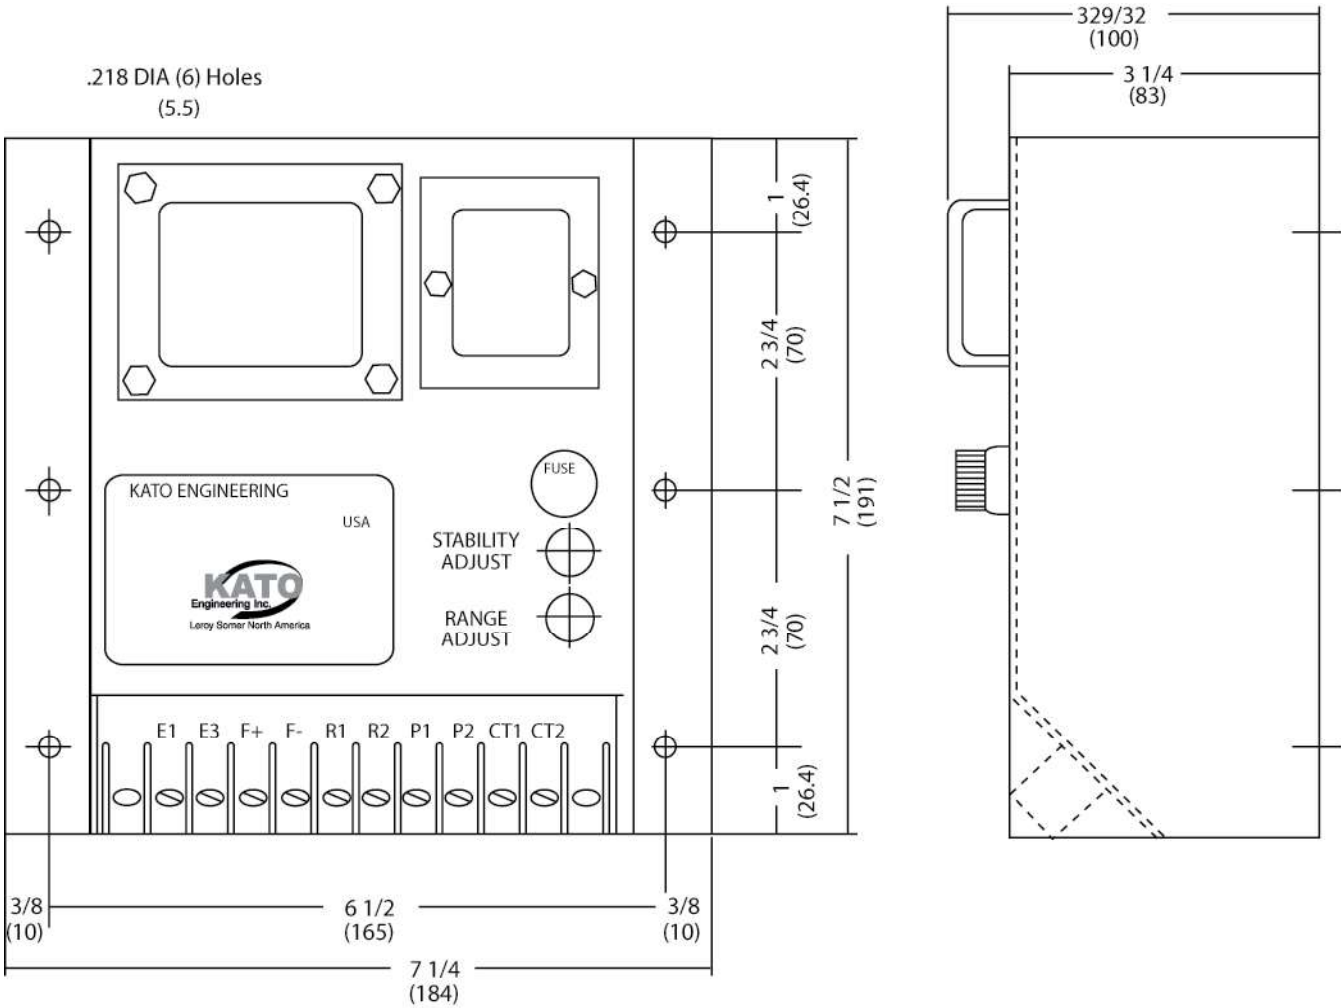
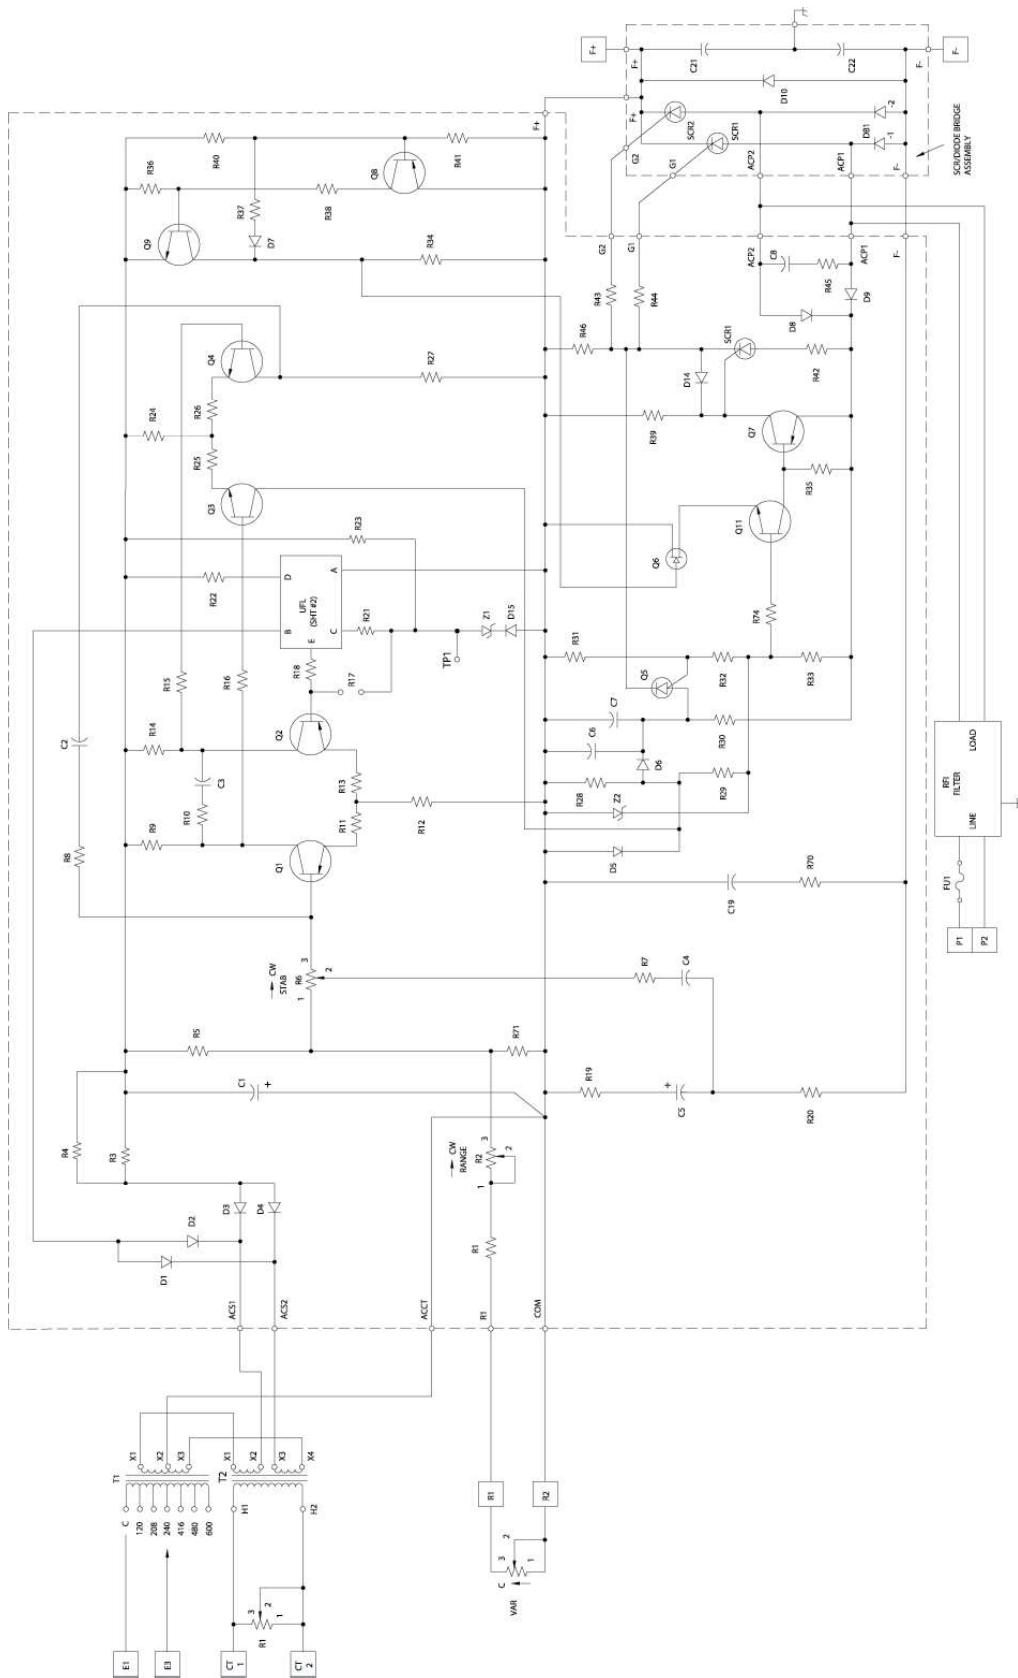
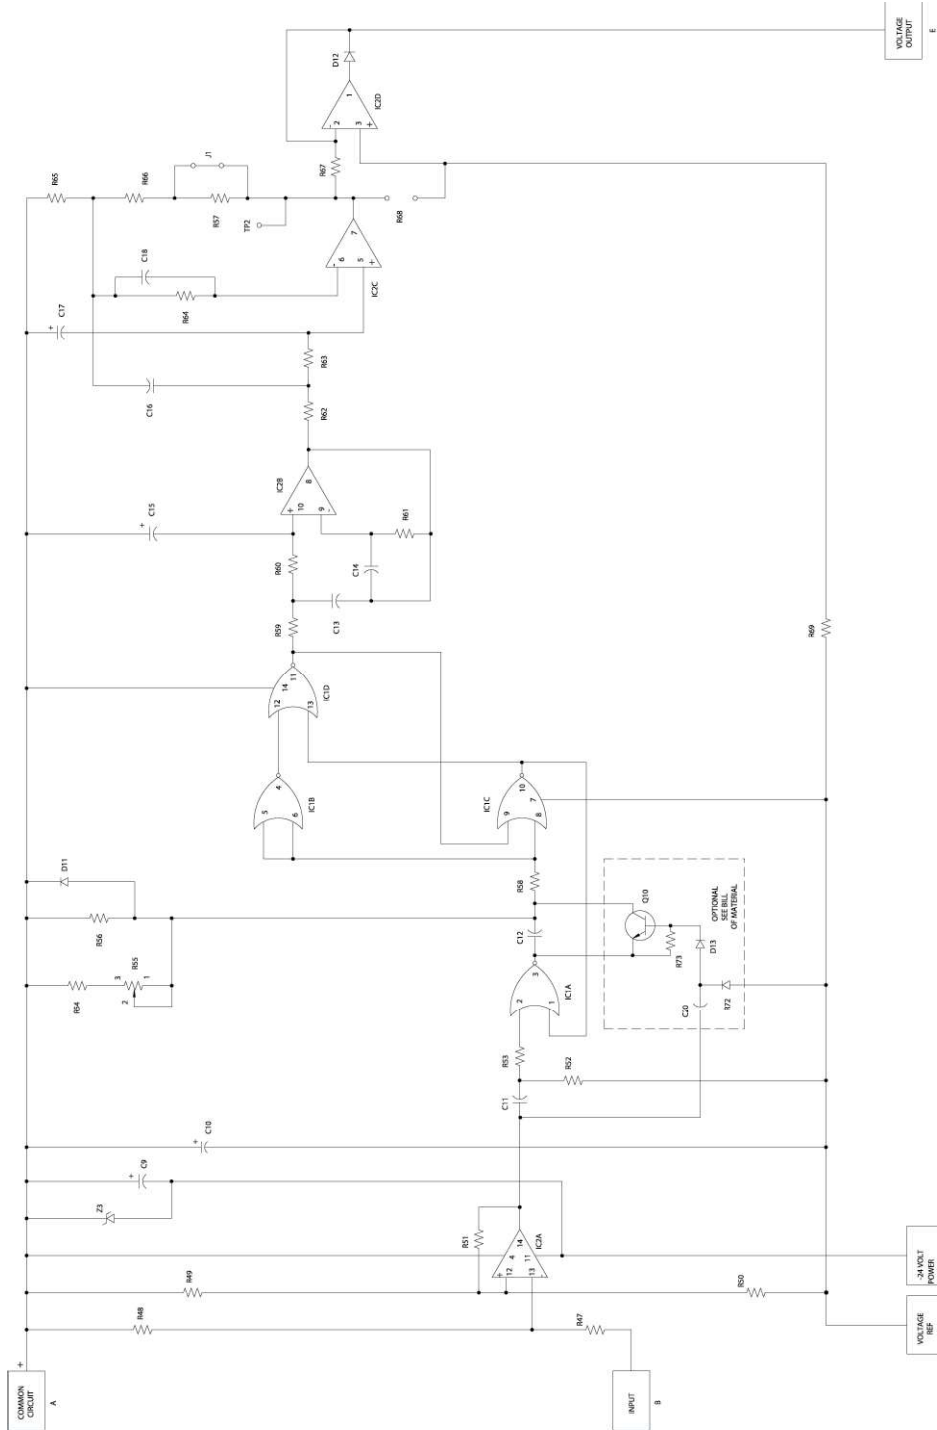

Figure 2: Outline drawing
Figure 3: KCR 360 schematic
Figure 4: Underfrequency limit (UFL) electrical schematic
**Dimensions:** 7.5 inches (191 millimeters) x 7.25 inches (184 millimeters) x 3 29/32 inches (100 millimeters). See Figure 2.
Operation of the various regulator circuits is described in detail in the paragraphs that follow. Most of the circuits are contained on a printed circuit board. Parts that are individually mounted on the regulator case are the sensing transformer T1, parallel operation transformer T2, parallel voltage droop slide-wire resistor R1, SCR/diode bridge assembly, and an electromagnetic interference filter. External voltage adjust rheostat VAR is provided for installation on a control panel. The circuitry described in the following paragraphs is shown on the electrical schematic of the voltage regulator (Figure 3) and on the electrical schematic of the underfrequency limit circuitry (Figure 4).
**Volts-per-hertz sensing option:** Where this option is included, the volts-per-hertz circuitry interconnections within the regulator are the same as the UFL circuit shown in Figure 3. The volts per hertz circuitry is identical to the UFL circuitry shown in Figure 4 except R67 and R69 are omitted, R68 is installed, and D12 is replaced with a jumper. IC2D then operates as a buffer amplifier. The output voltage to the error detector will be proportional to the generator frequency. Where the volts-per-hertz option is provided, voltage will be proportional to frequency from rated frequency down to approximately one-half rated frequency.
**Flat regulation for constant voltage variable frequency application:** Where this option is included, the underfrequency limit circuitry (UFL) shown in Figure 3 and Figure 4 is not included. A fixed reference voltage from Zener diode Z1 and across resistor R17 is applied to the reference side of the error detector (transistor Q2). Where this option is included, a decrease in frequency will not result in drop in voltage. Minimum frequency that can be attained while maintaining rated voltage will depend on voltage regulator capacity and saturation characteristics of the exciter and generator.
**Interconnection:** Connect the regulator to the generator system as instructed in this section and as shown in the connection diagram provided with the generator set. See Figure 2 for an overall outline drawing that shows the location of regulator mounting provision and parts of the voltage regulator. See Figures 8 for a typical interconnection diagrams and Figures 3 and 4 for electrical schematics of the voltage regulator. Use 14 gauge or larger wire for connections to the voltage regulator.
**Underfrequency limit (UFL):** The underfrequency limit components are located on the voltage regulator circuit board (see Figures 3 and 4). Use of jumper wire J1 is as follows:
**Voltage regulator fuse:** The voltage regulator contains an 8 A normal blow fuse in the voltage regulator input power circuit (see Figure 3). In applications where voltage regulator power requirements are reduced, as when used with small generators where excitation is less than given, a smaller fuse may be used. Never install a fuse larger than 8 A, and never install a delay-type fuse.